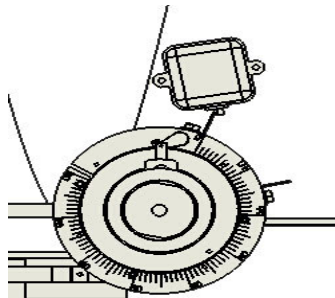

Figure 22
Step 5. Clockwise turn the dial, let the depth ring "o" position aim to the toggle switch. (Fig. 22).